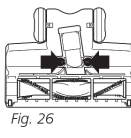
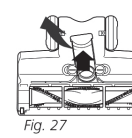

Fig. 26
Fig. 27
- 2 Squeeze tabs together and pull up to expose the airway. (Fig. 26, Fig. 27)